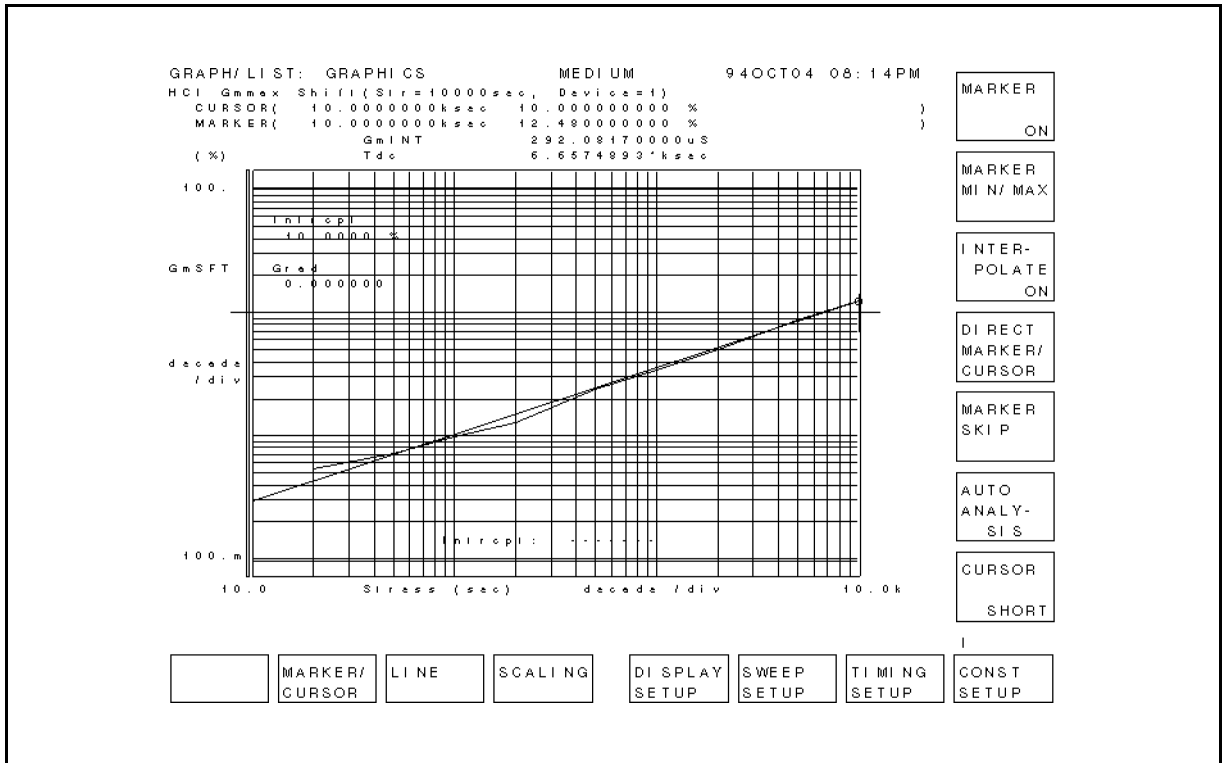

Figure 4-8. HCI Degradation Test Data Analysis Example
5. Analysis result and Tdc will be displayed on GRAPHICS page of the HP 4155A/4156A as shown in Figure 4-8. This step is repeated according to entered number of devices and selected parameters. After each graph is displayed, program pauses. During pause, you can save analyzed data to a DAT type file. To continue program, select **Continue** softkey.